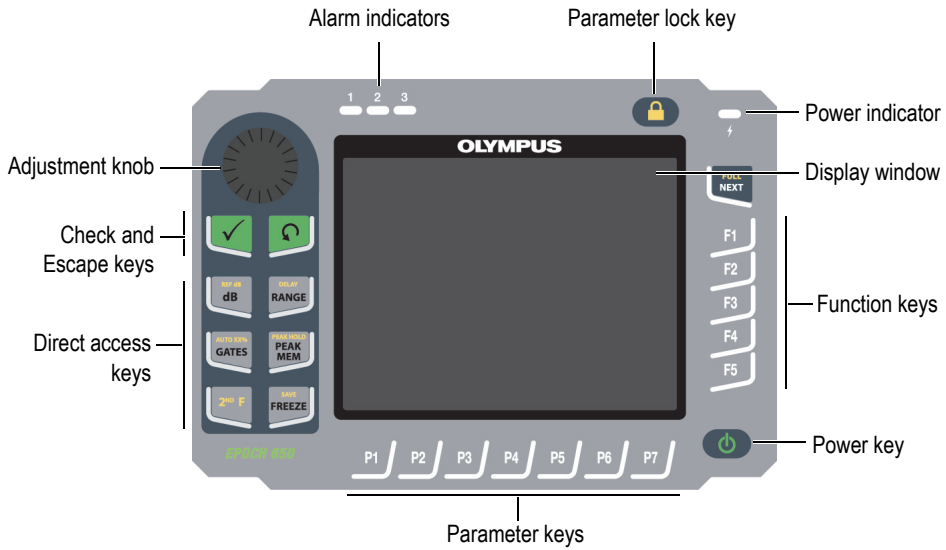
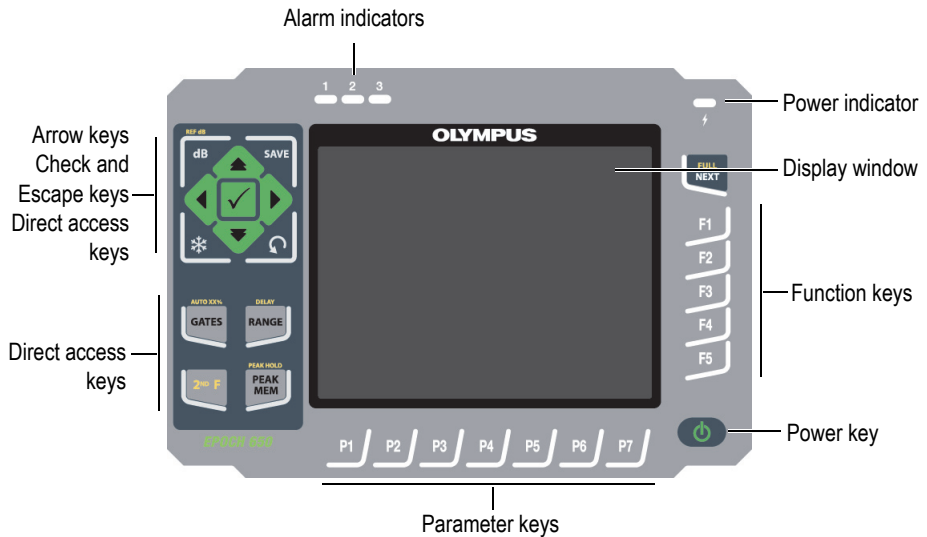
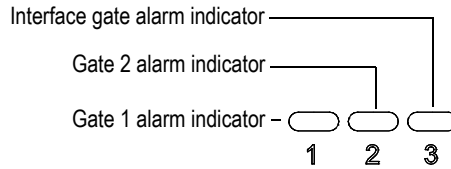

Figure 1-3 The EPOCH 650 – Adjustment knob configuration
Figure 1-4 The EPOCH 650 – Navigation pad configuration
Figure 1-15 Alarm indicators
- Adjustment knob (see Figure 1-3 on page 33)
- Navigation pad (see Figure 1-4 on page 33).
The EPOCH 650 ultrasonic flaw detector provides three alarm indicator lights (see Figure 1-15 on page 45). The indicators are located on the front panel above the display window (see Figure 1-3 on page 33 and Figure 1-4 on page 33).